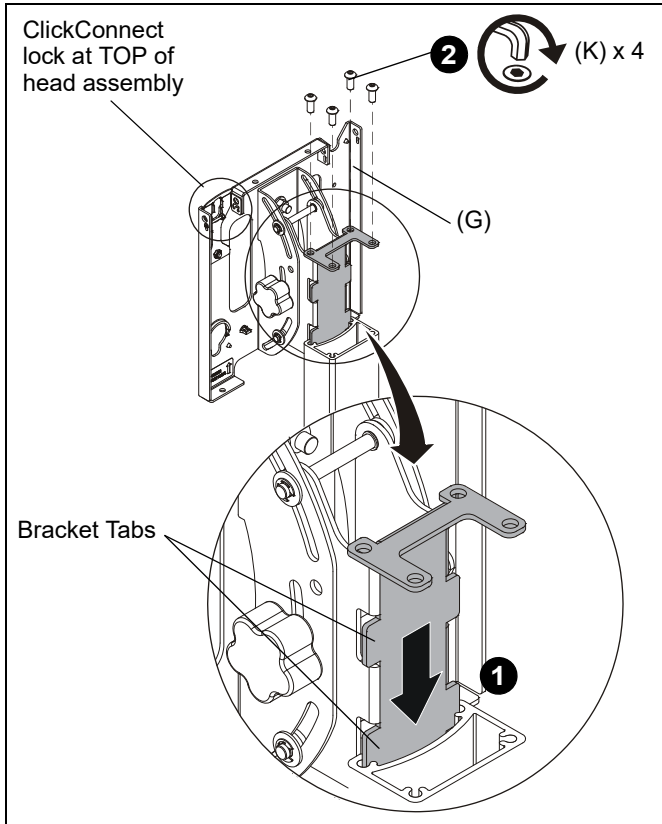

Figure 5
IMPORTANT ! : When attaching head assembly ensure that the ClickConnect lock is at TOP of head assembly, and bracket tabs slide into the cart assembly. (See Figure 5)
1. Slide head assembly (G) into the cart assembly. (See Figure 5)
2. Attach head assembly (G) to the cart assembly using four 5/16-18 x 1/2" button head cap screws (K). (See Figure 5)